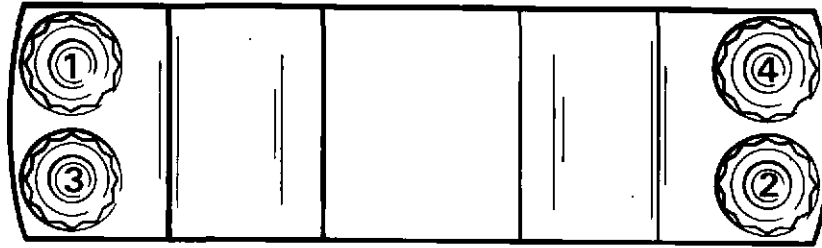

Fig. 10 Tightening sequence
- 24 Tighten the big end bearing cap nuts, for each connecting rod, in a diagonal pattern as shown in figure 10, until a torque loading of 60 Nm (42 lbf.ft.) is achieved. As each unit is tightened, check the crankshaft for freedom of rotation.